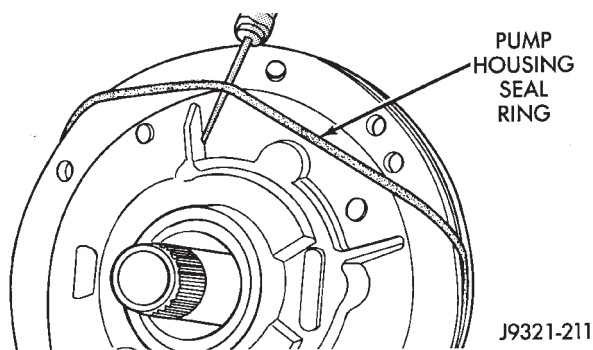

Fig. 41 Removing Pump Seal Ring
(1) Remove seal ring from housing and reaction shaft support (Fig. 41).